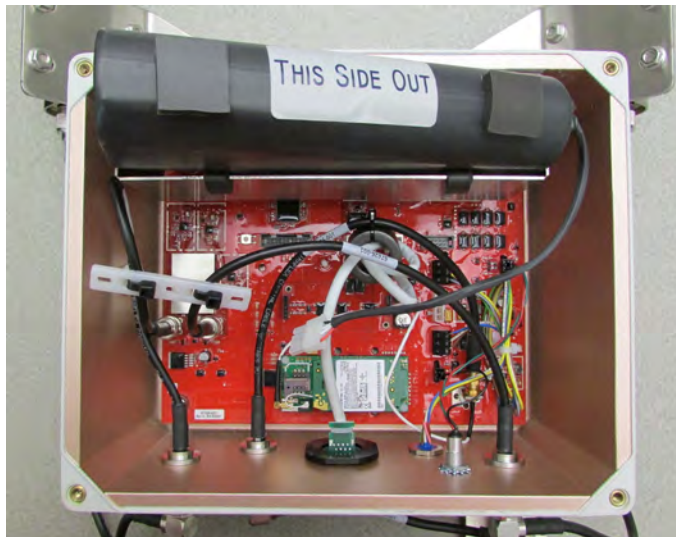

Figure 44: Battery removal
3. Grasp and pull to remove the battery from the unit (Figure 44) and safely discard the battery (see "Battery Disposal" on page 33).